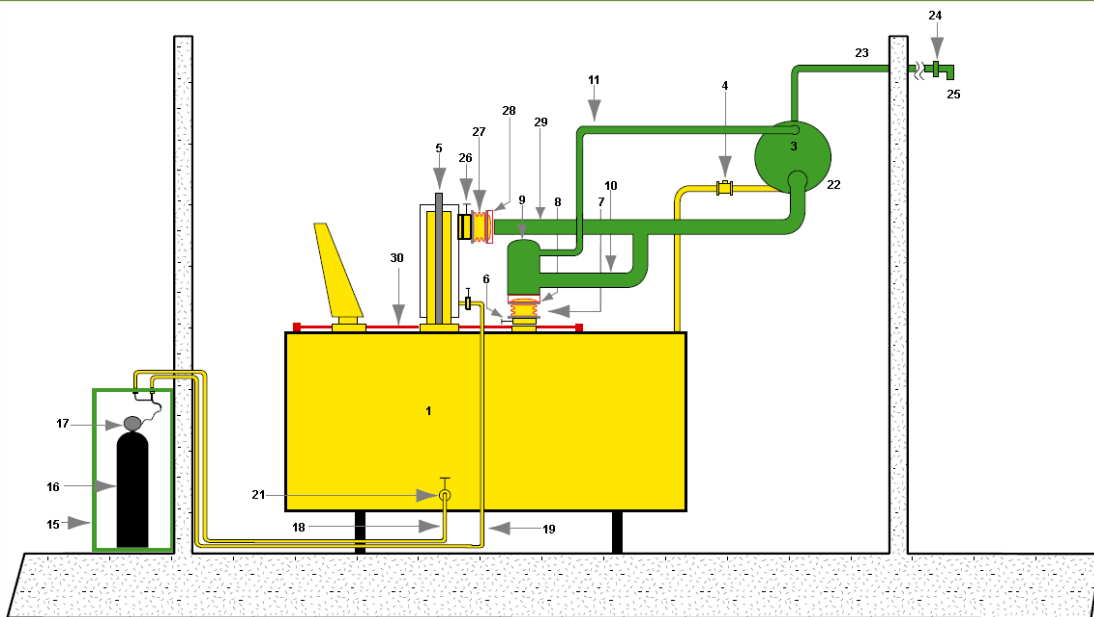

Figure 3: TRANSFORMER PROTECTOR, TPB type
- **TPB type**, Figure 3, is suitable for transformers from 0.1 MVA up to 1,000 MVA and above, located either indoors or outdoors. In this type, the transformer and OCB Depressurization Sets (items 6-9 and 26-28) will allow the depressurization in case of an internal fault. The depressurized oil and gas mixture is routed to an Oil-Gas Separation Tank (item 22). The gases are expelled through the Explosive Gas Evacuation Pipe (item 23), outside the building or to a remote area where gases can burn safely. An Air Isolation Shutter (item 24) is installed at the end of the Explosive Gas Evacuation Pipe (item 23) to avoid air from entering into the Oil-Gas Separation Tank (item 22) or the transformer tank.